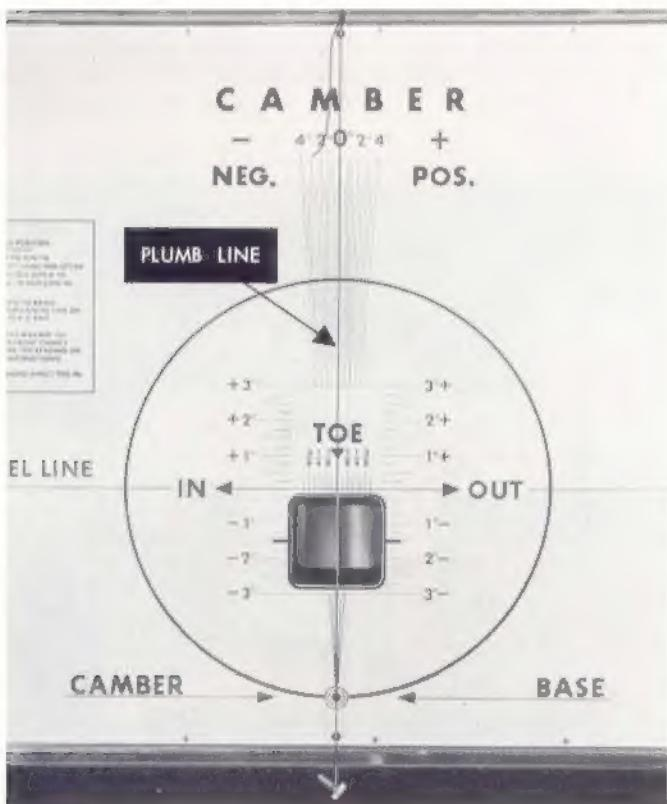

FIGURE 11
- 1. TO CHECK LEVEL BUBBLES ON CHARTS:** First, adjust chart feet screws for plumbing the chart faces, as explained in Section B, Page 3. Slide the charts back and forth to make sure the rollers are properly positioned on top frame rails. Adjust charts by using adjusting handles so that the vertical red toe lines are **plumb**, using a good carpenter level, plumb-bob, or even a bolt tied to a string. (See Figure 11.) Then check level bubbles for accuracy. If the bubbles are not **exactly** centered, loosen the screws holding the level barrels and adjust properly. Hence, when the level bubble is centered, the vertical red toe line is exactly vertical.